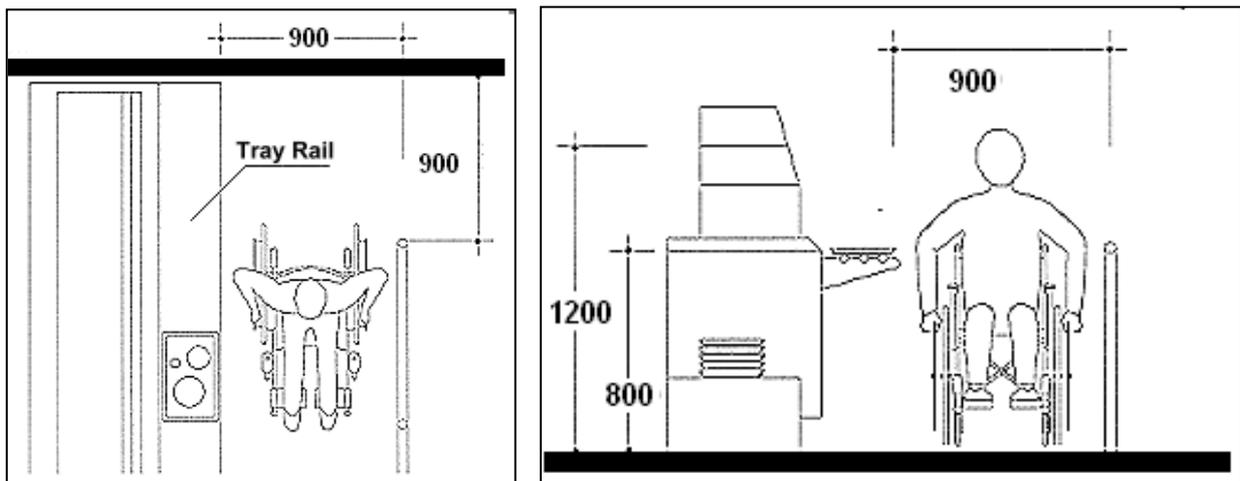

Figure 18-7. Wheelchair aisle space and reach height for self serving
- In self-service dining areas, tray slides and counters should be mounted at 800mm from the floor for wheelchair users. Aisle space of minimum 900mm should be provided (Figure 18-7).